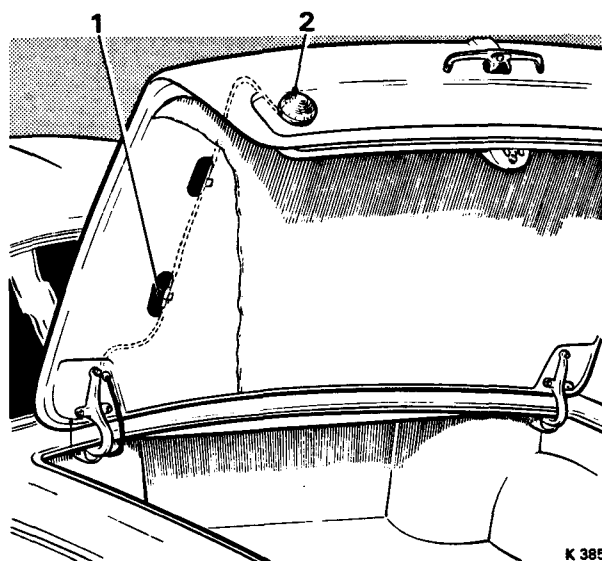

FIG. S52 REVERSING LAMP SNAP CONNECTORS
6. **Cars after Car Serial Number 5000.** Using a sharp wedge-shaped tool, carefully separate the carpet trim from the luggage compartment lid until access to the snap connectors of the reversing lamp leads is possible (*see Fig. S52*); disconnect the connectors.